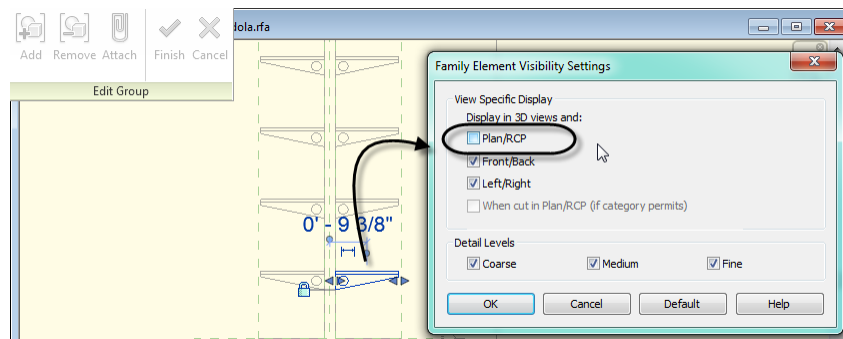

Figure 38
4. In the “Family Element Visibility Settings” dialog, uncheck the Plan/RCP box and then click OK (see Figure 38).